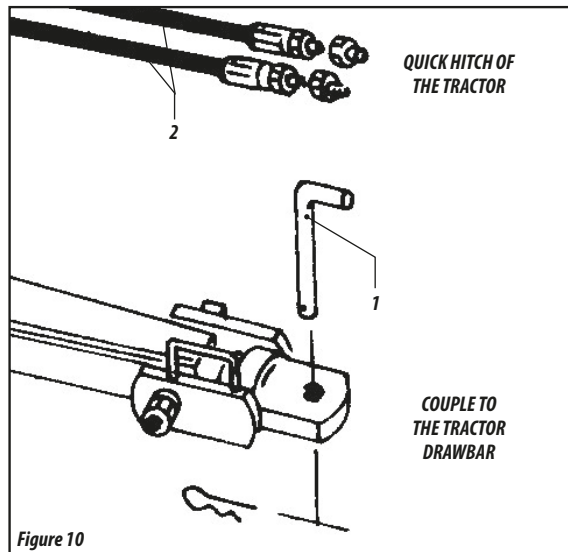

Figure 10
- 02 - Place the coupling header item 4, between the upper and lower plates of the cross bar, fixing it with the screw item 5, washer and nut item 6. Place the adjustment pin item 6.
- 01 - To couple the disc harrow to the tractor drawbar, their alignment should be observed, adjust the exact height of the disc harrow and use the coupling pin "L" item 1 Figure 10.